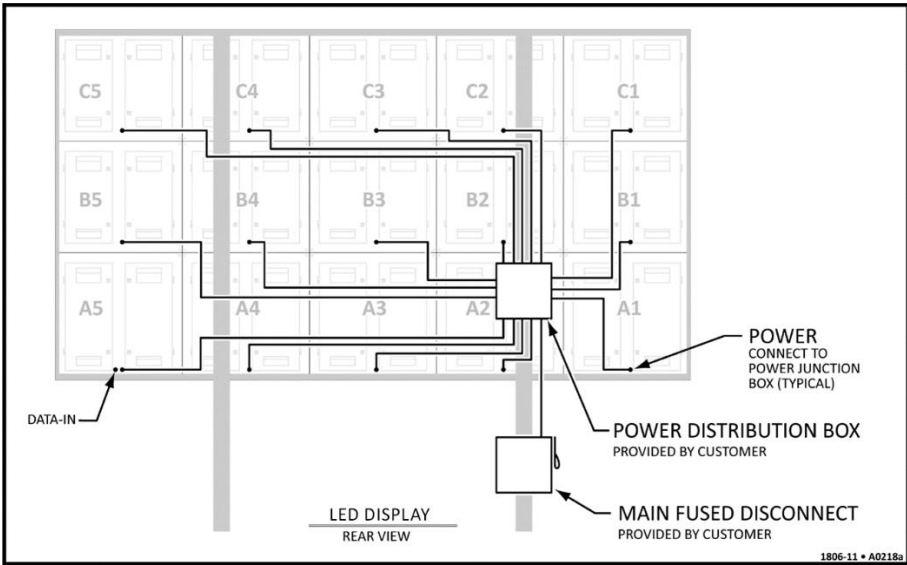

FIGURE 20 — POWER CABLE CONNECTIONS
- All data cable wires must be routed and reconnected to operate all sections. Refer to Figure 20 on page 20.
- A fused disconnect (provided by others) must be installed. The location of the disconnect switch after installation shall comply with Section 600.6(A) of the National Electrical Code. Refer to Figure 20 below.